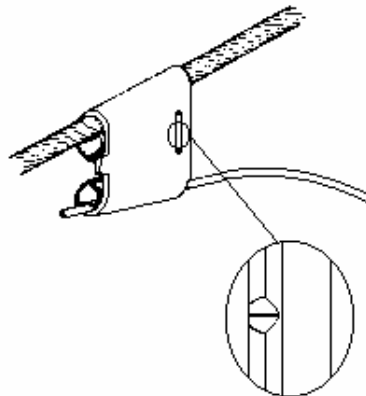

Figure 6
- e) Be sure that installation is correct by checking to see that the clip on the "wedge" component is protruding through the opening on the "C" component . See Figure 6 .